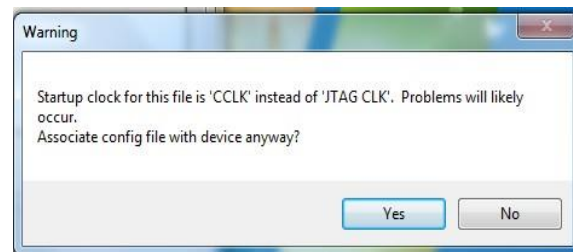

Figure 19: Warning about CCLK and JTAG CLK
- Once this is done, a warning window will pop up if the clock is set to CCLK which can be closed by clicking Yes as shown below (**Figure 19**). Or it can be fixed by setting Clock source to JTAG Clock in the Synthesize setting in Xilinx ISE.